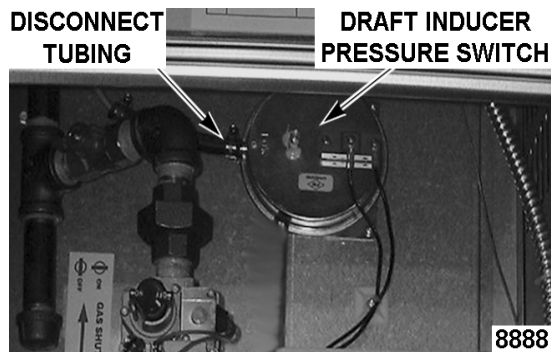

Fig. 15
3. Verify draft inducer pressure switch (Fig. 15) operation.
- B. Disconnect tubing from draft inducer pressure switch (Fig. 15). Burner flame should go out.